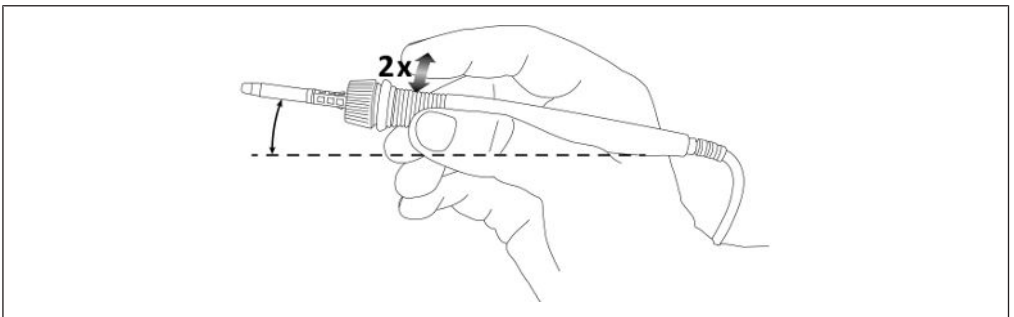

Fig. 14: Double tap the soldering iron
- a) Double tap the soldering iron to turn off the heating element. While tapping, tilt the soldering iron slightly upwards (see Fig. 14).